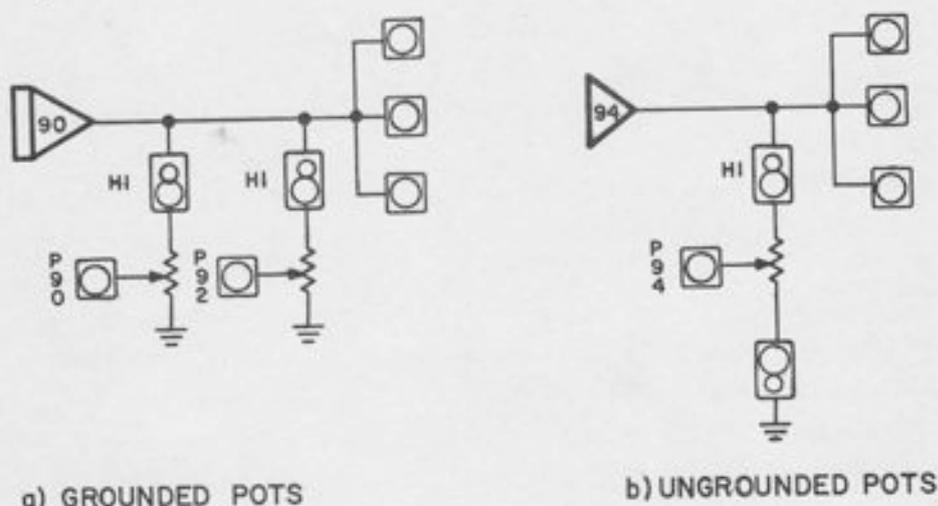

Figure 8.2. Normally-Closed Connections on Pots
8.1.2 Normally-Closed Connections (Figure 8.2)